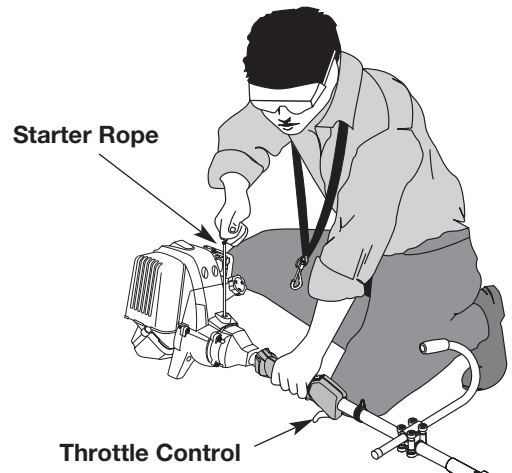

Fig. 21
WARNING: Avoid accidental starting. Make sure you are in the starting position when pulling the starter rope (Fig. 21). To avoid serious injury, the operator and unit must be in a stable position while starting. Make sure that any Add-On item is installed correctly and secure before starting the unit.
4. With the unit in the starting position, **do not squeeze the throttle control** (Fig. 21). Pull the starter rope out a short distance, until you feel some resistance. This is usually around 2-4 inches. Then pull the rope smoothly and briskly. Repeat this 5 times. The engine should start.